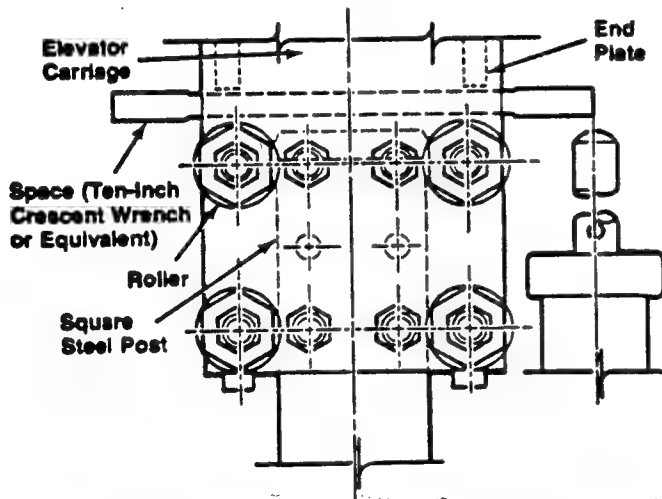

Figure 2-1. SUPPORTING TABLETOP.
a. With Base Cover Raised (Figure 2-1)